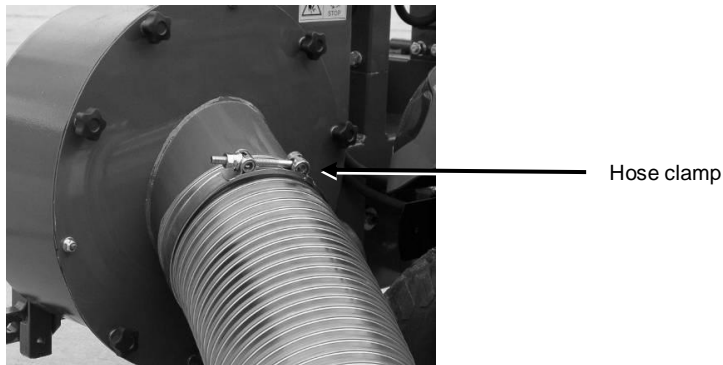

Fig. 38: Suction hose on the turbine cover
7. Disconnect the suction hose from the connector on the CS by loosening the hose clamp (see Fig. 38).